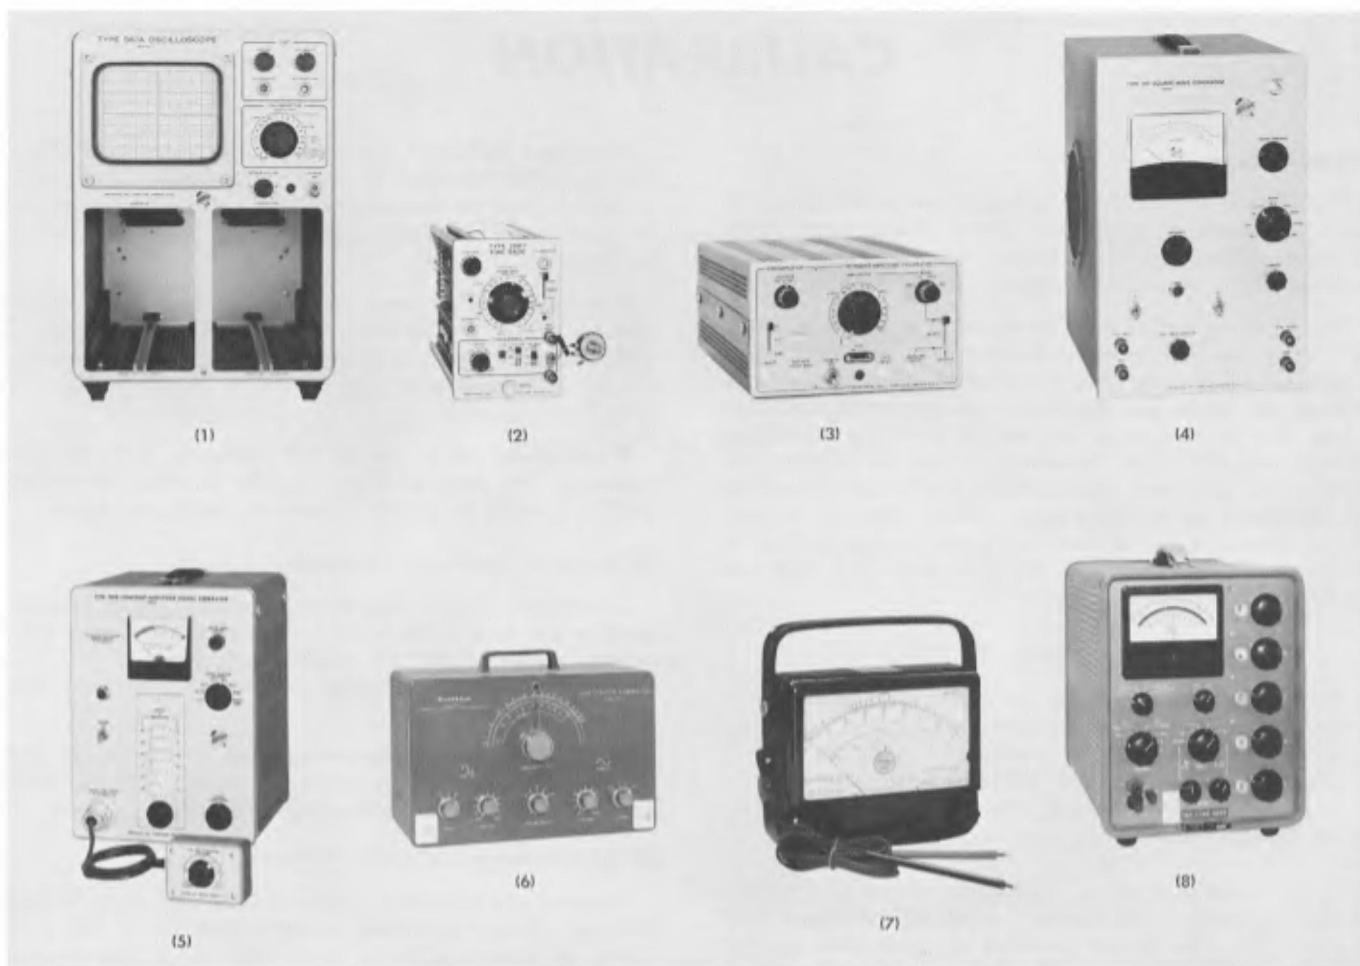
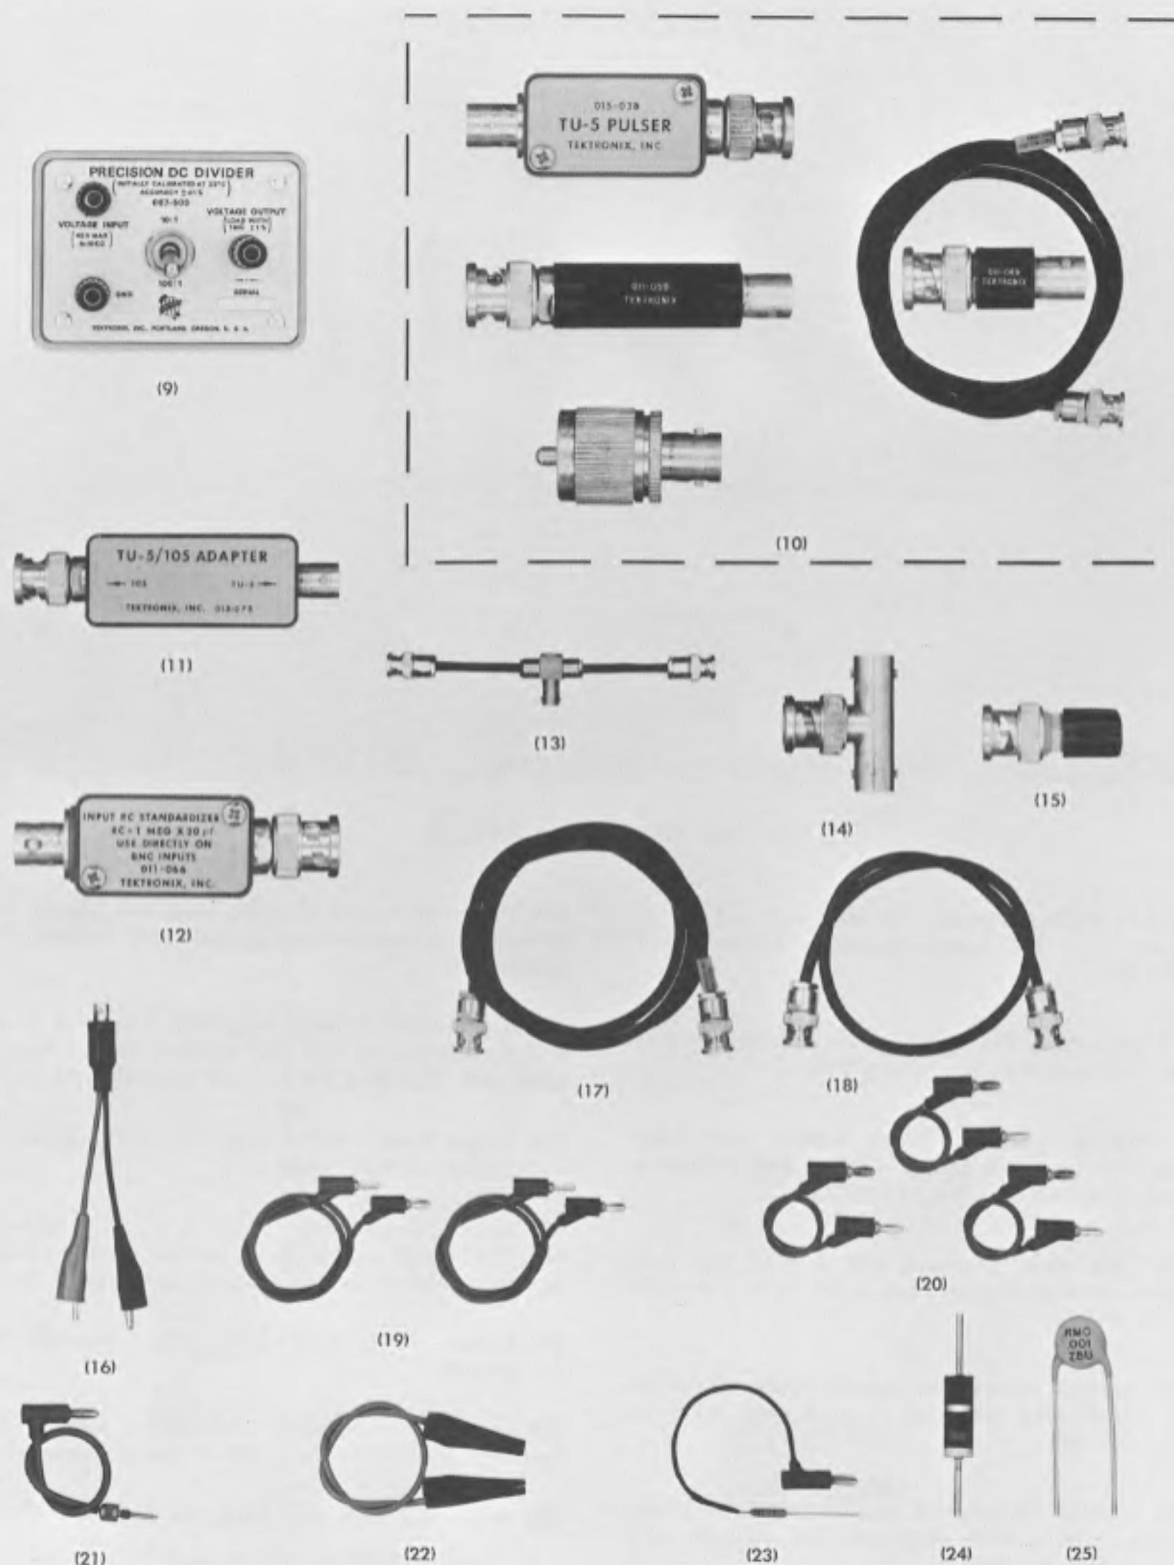
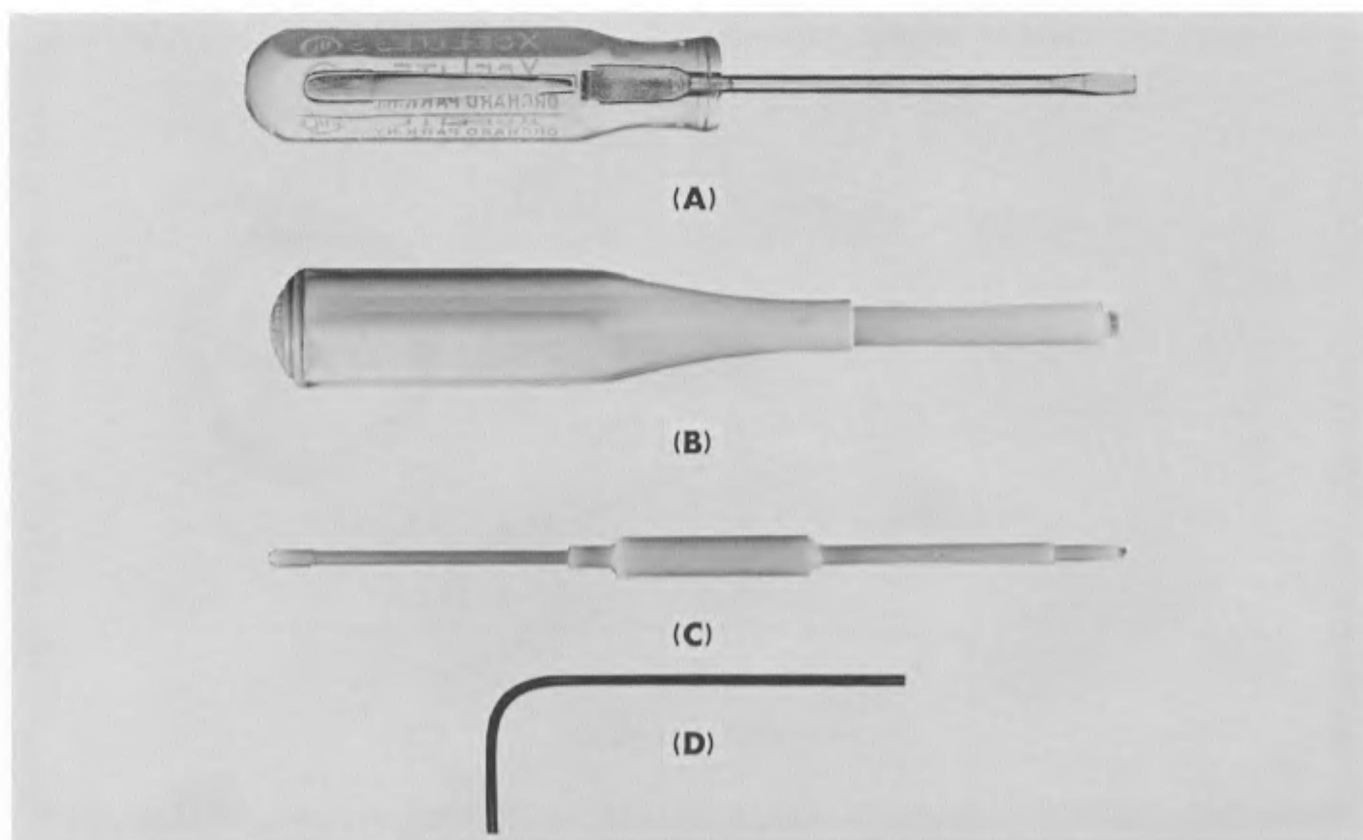

Fig. 5-1. Equipment required for a complete calibration of the Type 3A7.
Fig. 5-2. Accessories used in calibration of the Type 3A7.
Fig. 5-3. Adjustment tools.
The following equipment, or equivalent, is required for a complete calibration of the Type 3A7. Exception: Item 7 dc voltmeter can be deleted if you use item 8 to perform steps 2 and 6 in the procedure. Fig. 5-1 shows items 1 through 8; Fig. 5-2 shows items 9 through 23; Fig. 5-3 shows the adjustment tools needed.
(1) Oscilloscope, Tektronix 560-Series which accepts the Type 3A7 plug-in. The oscilloscope must operate properly.
(2) Type 2B67 Time-Base Plug-In Unit, or equivalent. Required if item 1 does not have its own internal time base.
Horizontal deflection required is approximately 5 V/div. The Type 3B4 Time-Base Plug-In Unit (not shown in Fig. 5-1) is ideally suited for this purpose. Or, a plug-in amplifier can be used if the time-base unit does not have the external horizontal input facility.
If a Type 2B67 is used, the external input sensitivity is about 1 V/div. To obtain a deflection factor of about 5 V/div, simply connect a 50,000-ohm potentiometer between the Ext Input connector and ground as shown in Fig. 5-1, item 2.
(16) Adapter, clip lead. Equipped with a BNC jack connector on one end and alligator clips on the leads. Tektronix Part No. 013-0076-00.
(17) 50-ohm (nominal impedance) coaxial cable, 42 inches long, with a BNC plug connector on each end. Tektronix Part No. 012-0057-00.
(18) 50-ohm (nominal impedance) coaxial cable, 18 inches long; equipped with a BNC plug connector on each end. Tektronix Part No. 012-0076-00.
(19) Two patch cords, 18 inches long, with banana plug and jack combination connector on each end. Tektronix Part No. 012-0031-00.
(20) Three patch cords, 6 inches long, with banana plug and jack combination connector on each end. Tektronix Part No. 012-0024-00.
(21) Jumper lead, 6 inches long, with a tip plug on one end and a banana plug and jack combination connector on the other end. (Tip plug fits Vc OUT jack on Type 3A7.)
(22) Jumper lead, 7 inches long, with miniature insulated alligator clips on each end.
(23) Resistor, fixed, 1 M $\Omega$ ,  $\frac{1}{2}$  or  $\frac{1}{4}$  W, 1%. Tektronix Part No. 323-0481-00 for the  $\frac{1}{2}$ -W resistor. Solder a 4-inch lead equipped with a banana plug to one lead of the resistor.
(24) Resistor, fixed, 47  $\Omega$ ,  $\frac{1}{2}$  W, 10%. Tektronix Part No. 302-0470-00.
(25) Capacitor, fixed, 0.001  $\mu$ F, 50 V or higher. Tektronix Part No. 283-0000-00 for a 500-V discap capacitor.
(26) Adjustment tools (one each, see Fig. 5-3):